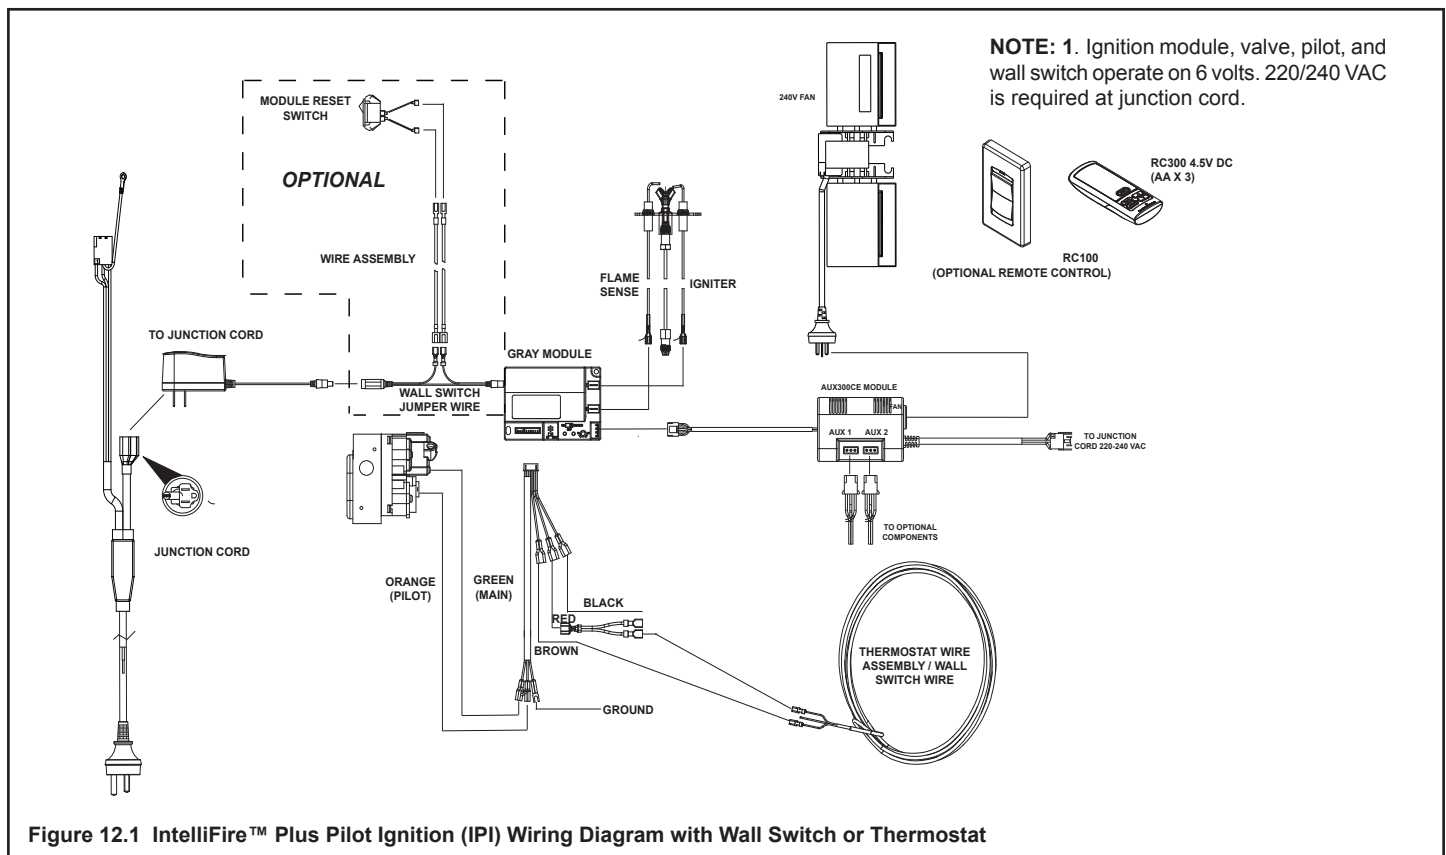

Figure 12.1 IntelliFire™ Plus Pilot Ignition (IPI) Wiring Diagram with Wall Switch or Thermostat
- Refer to Figure 12.1, IntelliFire™ Plus Pilot Ignition (IPI) Wiring Diagram.